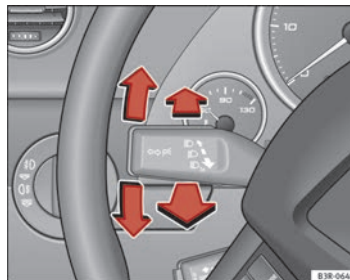

Fig. 90 Turn signal and main beam headlight lever
- Move the lever all the way up to indicate right or all the way down to indicate left \Rightarrow Fig. 90.